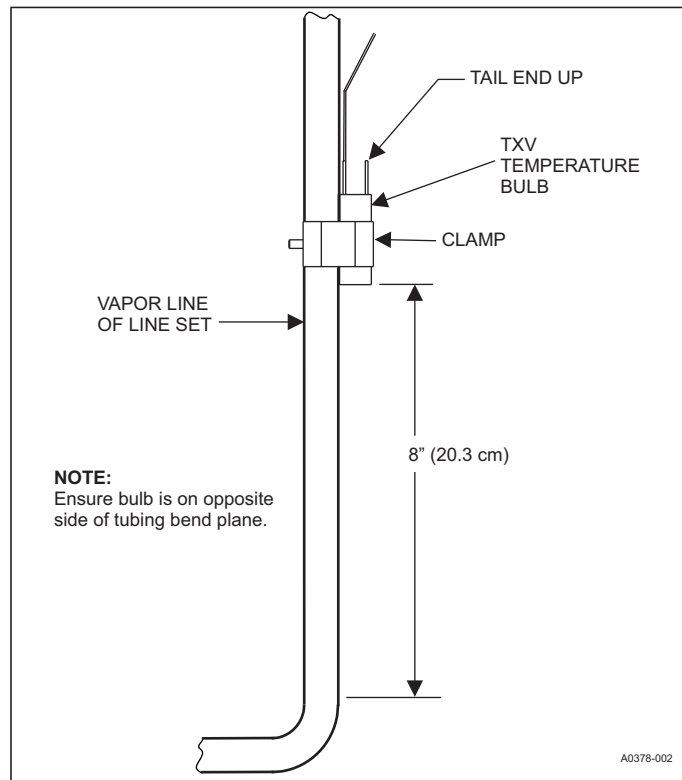

FIGURE 14: Vertical Temperature Bulb Orientation
- b. If bulb installation is made on a vertical run, ensure that the bulb is a minimum of 8 inches (20.3 cm) away from elbow coming out of the coil. Position the bulb with the tail of the bulb at the top, so that the bulb acts as a reservoir. See Figure 14.